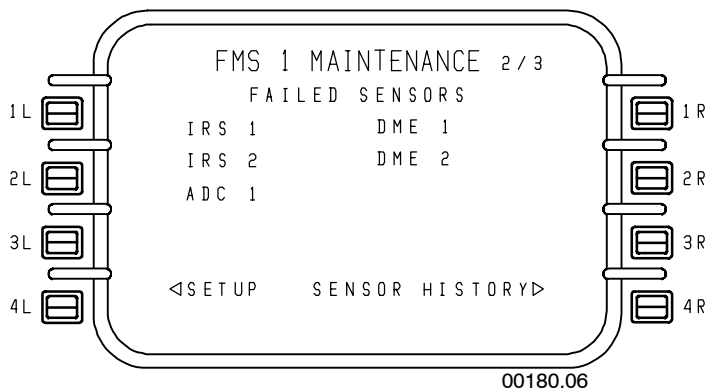

Figure 6-193
- **MAINTENANCE 2/3** - Figure 6-193 lists the currently failed sensors as determined by the FMS.